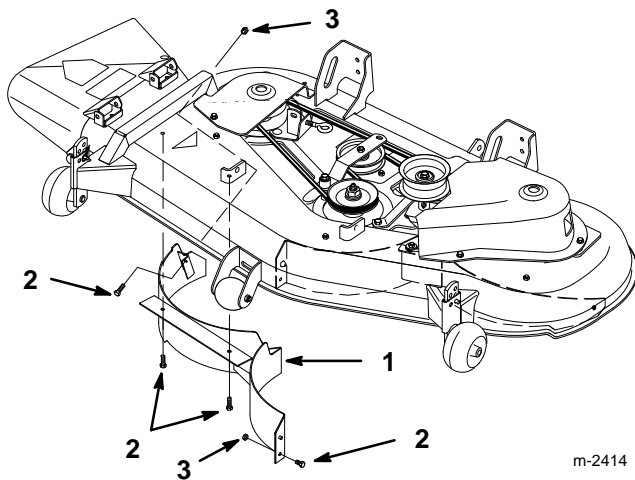

Figure 16
1. Remove lock nuts from top, discharge side and center flange of right side baffle (Fig. 16). Lower baffle and slide out discharge opening to remove.
2. Install previously removed 5/16–5/8” (16 mm) bolts and 5/16” lock nuts in open holes of mower for safety (Fig. 16).